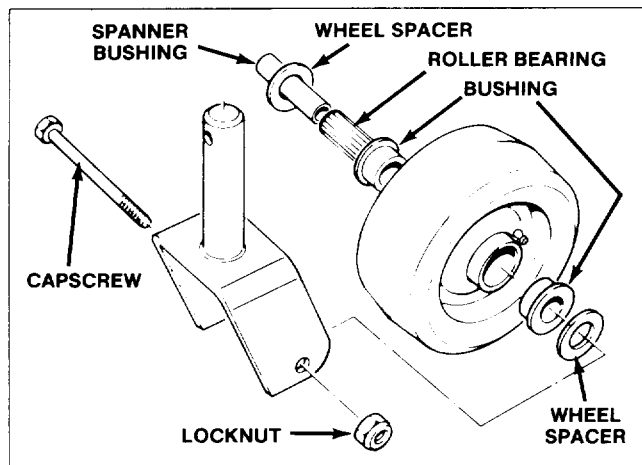

Figure 8
1. Remove locknut from capscrew holding castor wheel assembly between castor fork (Fig. 8). Grasp castor wheel and slide capscrew out of fork.
Note: Account for the two wheel spacers (Fig. 8).
2. Tip wheel to the side and allow roller bearing and spanner bushing to fall out (Fig. 8).
8. Pump more grease through grease fitting on wheel (Fig. 8) until bearing is greased thoroughly.